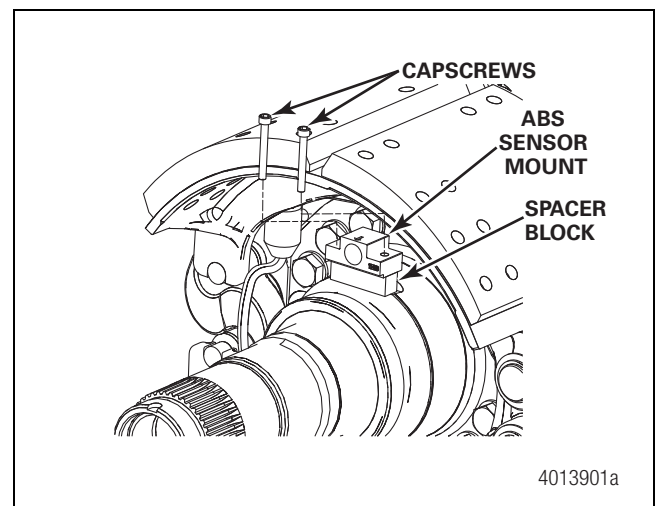

Figure 3.5
5. Note the orientation of the ABS sensor mount block. Remove the two capscrews and remove the ABS sensor mount and spacer block from the spindle. Figure 3.5.